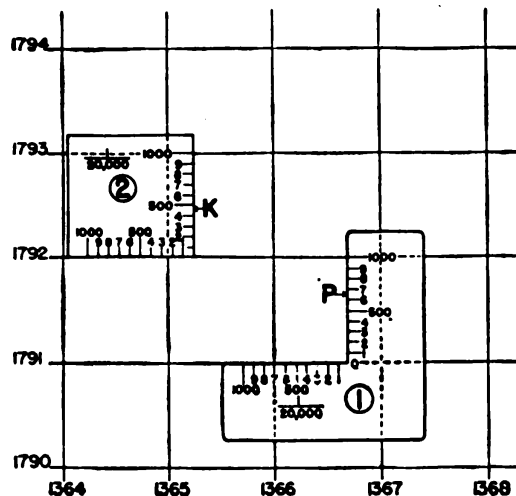

FIGURE 207.—To plot position of point with coordinate scale on terrain map (1:20,000 scale) having 1,000-yard grid. (Not reproduced to scale.)
*Q.* Explain in detail how to read the coordinates of any point on a gridded map. *A.* The coordinates of any square in the grid system are the *X* and *Y* coordinates of the lower left-hand (southwest) corner of the square. The coordinates of the lower left-hand square in figure 207 are (1,364,000-1,790,000) but are usually written (1,364-1,790), it being understood that each number represents thousands of yards. These coordinates also locate to the nearest thousand yards any point in the lower left-hand square of figure 207. To locate a point more closely we can assume that each side of the square in question is divided into 10 equal parts, each of which represent 100 yards. Then the coordinates of the center of the lower left-hand square would be expressed as (1,364.5-1,790.5), which locates the center to the nearest hundred yards in each direction. The method may be further refined to read to the nearest 10 yards.
*Q.* What is a coordinate scale? Explain its use. *A.* A coordinate scale is a right-angled ruler made of thin metal, celluloid, or other material with scales on it equal in length to the grid interval of the map being used (fig. 207). To plot any point on the map, for instance the point *P* of which the coordinates are given as (66.70-91.65), place the coordinate scale on the map in position ① as shown in figure 207. The position of *P* can be marked at once with a pin or sharp pencil. It should be noted here that the first two numbers of the coordinate expression (1366.70-1791.65) have been dropped because they are common to all points in the section of map under consideration. The process of reading the coordinates of a point appearing on the map is the reverse of the method given for plotting a point on the map.